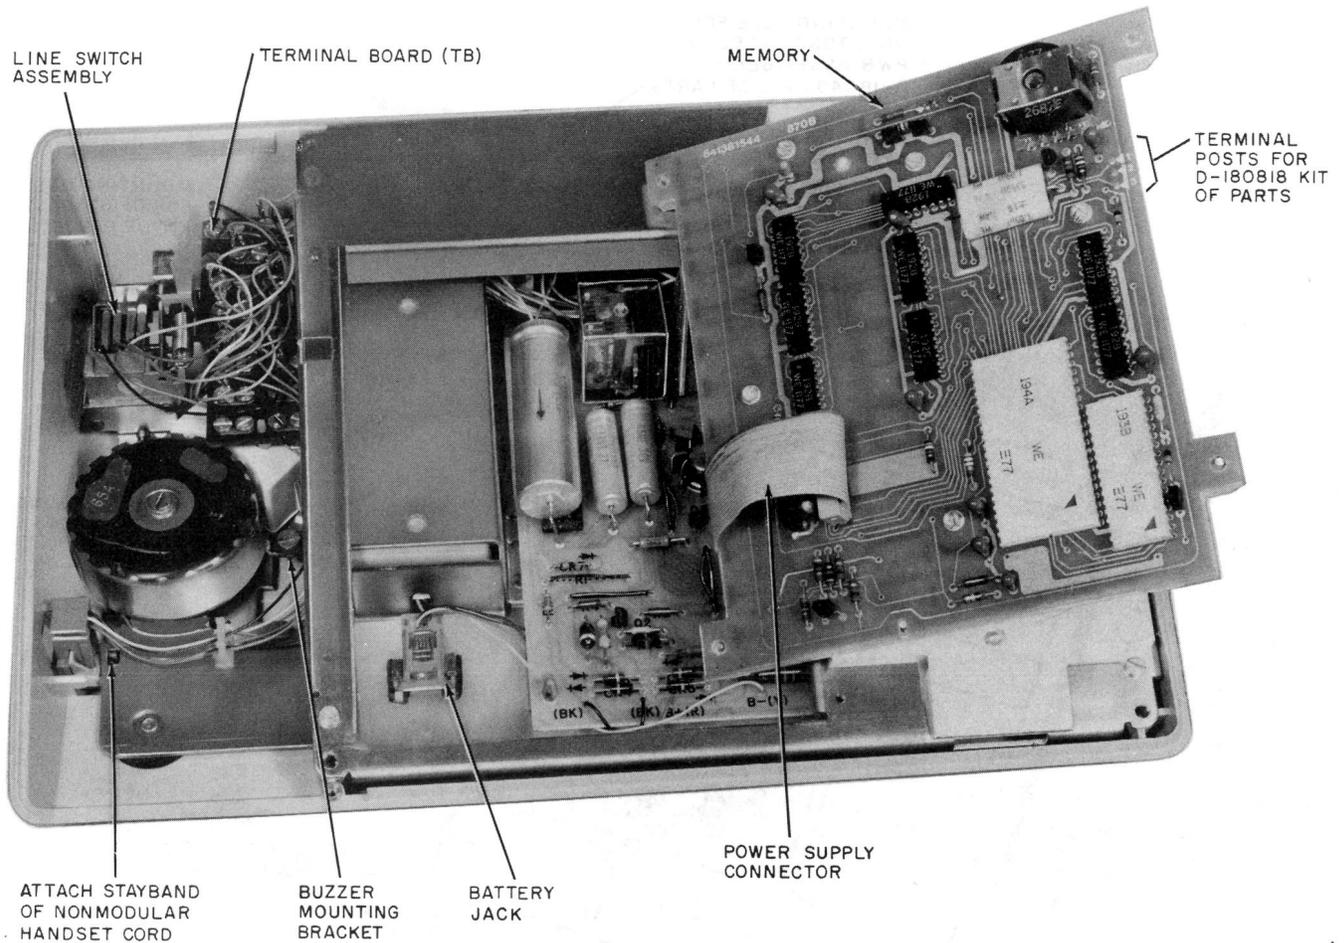
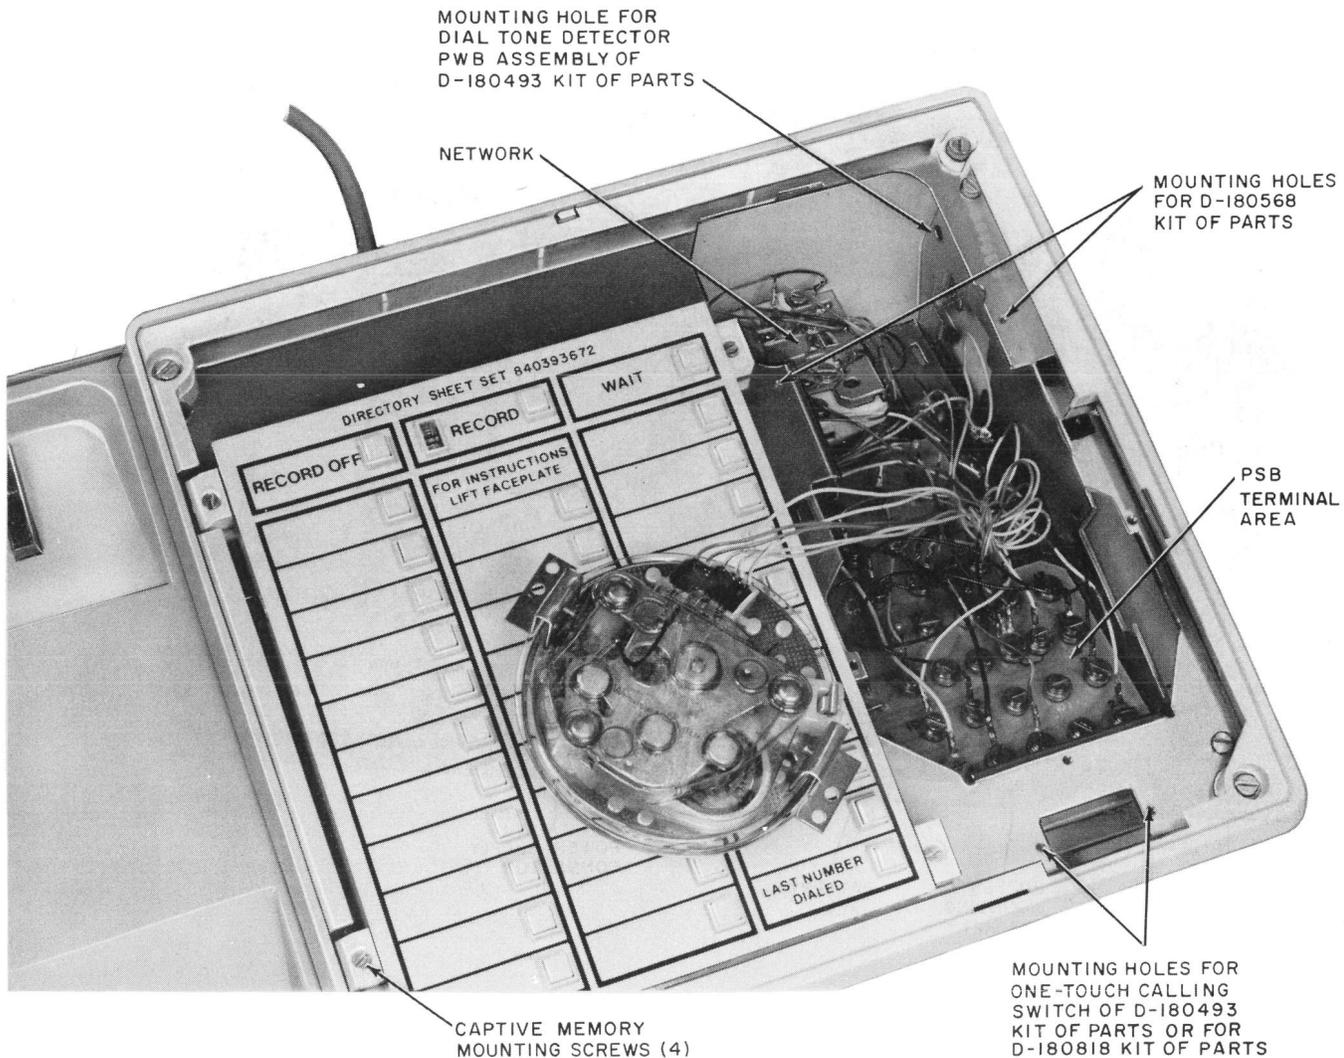

Fig. 3—870A2M Telephone Set—Internal View
Fig. 4—870A2M Telephone Set—Dial Removed to Show Terminal Area
- (1) Proceed as described in paragraph 3.18.
- (2) Make connections per appropriate Table B, C, D, or E.
- (3) Mount the kit assembly to the chassis with the screws provided (Fig. 4). Beveled corner of the printed wiring board (PWB) should be at lower right corner.
- (1) Remove the housing (paragraph 3.21), and access PSB terminal board (paragraph 3.18).
- (2) Insert the board assembly from the back of the set and locate as shown in Fig. 4, such that the two tabs on the board assembly fit into the slots in the chassis.
- (3) Lock the board into position by inserting the accompanying self-threading screw through the right side of the chassis.
- (1) Remove faceplate (paragraph 3.19).
- (2) Loosen the captive screw at the bottom of the cover around the dial and remove the cover.
- (3) Disengage the four captive memory mounting screws (Fig. 4).
- (4) Remove the two captive dial mounting screws and move dial aside.
- (5) Rotate left edge of the memory upward as shown by Fig. 3.
- (2) Remove handset cradle (paragraph 3.20).
- (3) Remove screw from buzzer mounting bracket, and mount buzzer on bracket shown in Fig. 3.
- Power supply board (PSB) terminal area (Fig. 4)
- Network (Fig. 4)
- Options (Fig. 4):